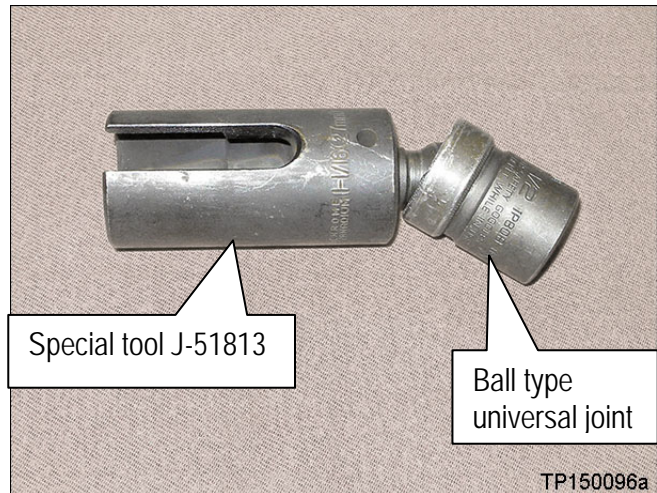

Figure A9
13. Connect special tool J-51813 to a ball type universal joint as shown in Figure A9.